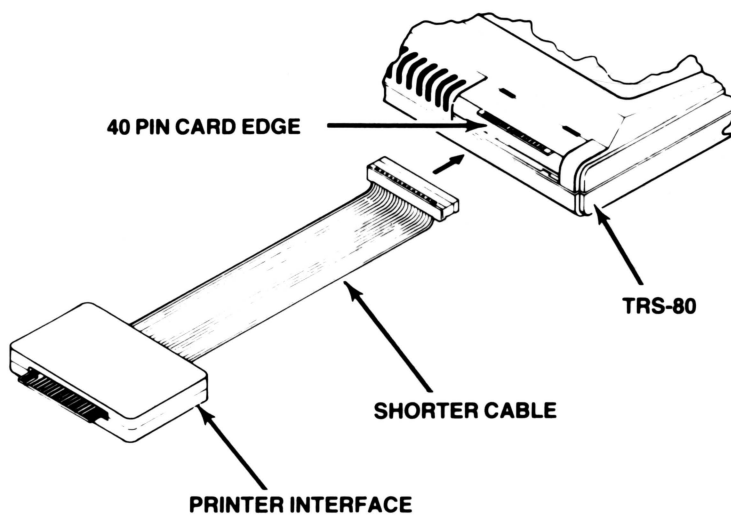

Figure 1. Connect the shorter cable to the TRS-80 Card-Edge.
Mate the card-edge connector on the short cable to the TRS-80 card-edge, making sure the cable exits from the **bottom** of the connector. See Figure 1.
5. Connect the other end of the longer cable to your Printer. Again, make sure that the cable exits from the **bottom** of the connector (As in Figure 1).